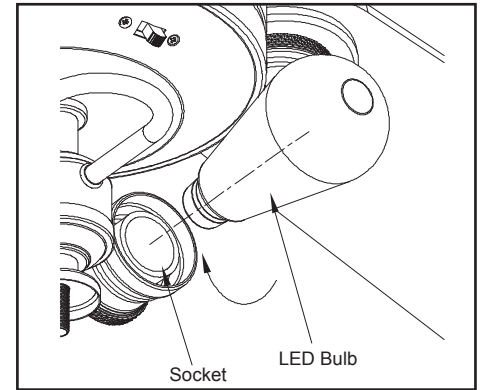

Figure 16
5. With the power off, install the two LED bulbs (provided) into the light bulb sockets. (Figure 16)